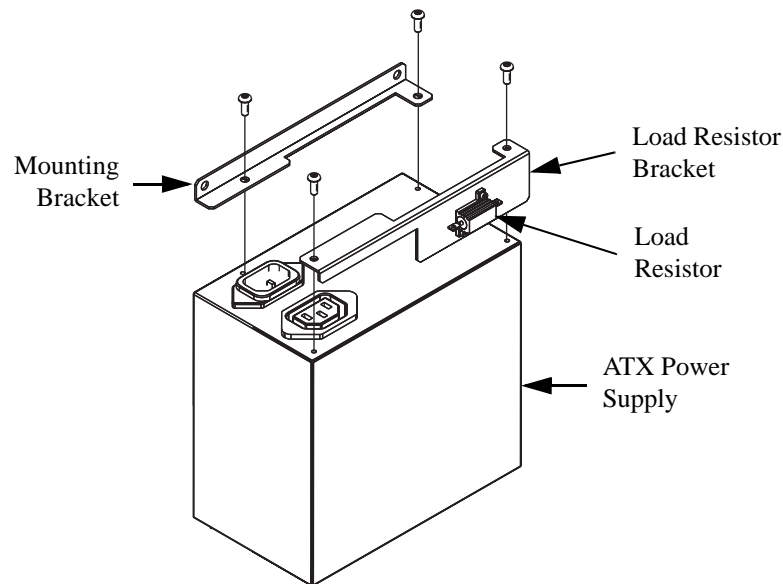

Figure 9-36 Removing the Load Resistor and Mounting Brackets from the ATX Power Supply
8. Remove the load resistor bracket (and attached load resistor) from the old power supply (see Figure 9-36) and install it on the replacement power supply.
9. Remove the mounting bracket from the old power supply (see Figure 9-36) and install it onto the replacement power supply.